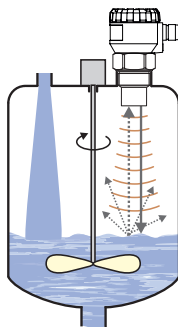

Fig. 12: Moderately stirred surface
- Scattering or attenuation of the ultrasonic signal can result if the surface level has been **moderately stirred** or **rippled** (by a mixer, coming liquid etc.). It can result in reduction of the measurement range or unreliable function of the level meter (Fig. 12).